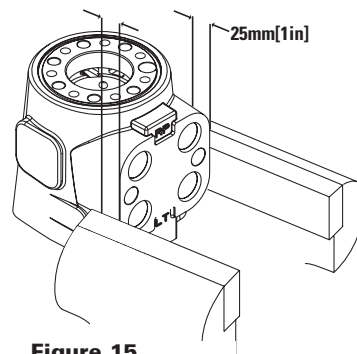

Figure 15
13. Clamp housing in Vice (figure 15).